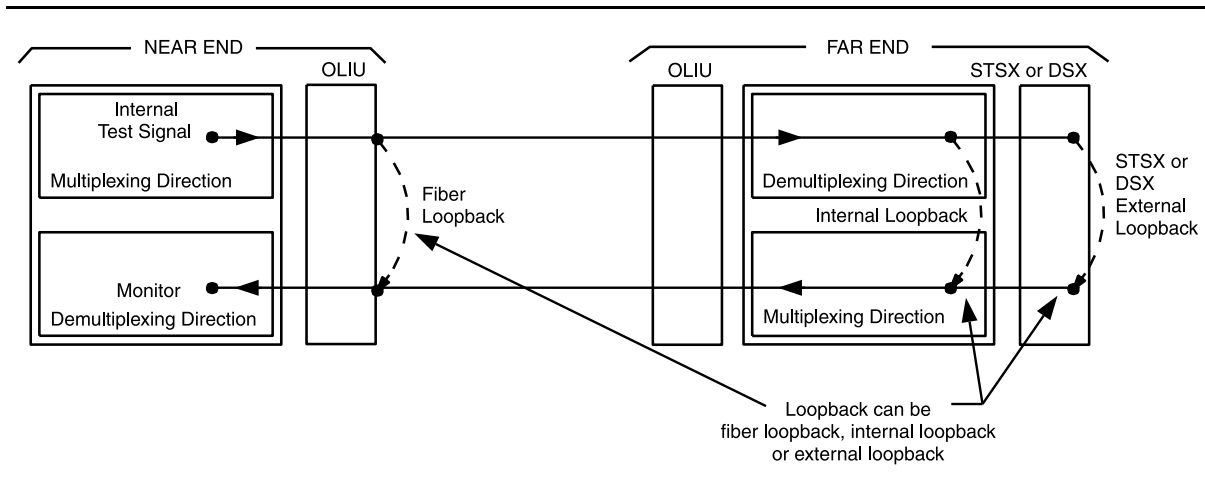

Figure 1 – Transmission Test of DS3 Signal in MUX Direction
6. See Figure 1. If local tests are being performed, the fiber loopback at the near-end **OLI** must be in place. If end-to-end tests are being performed, do ONE of the following:
22. See Figure 1. If local tests are being performed, the fiber loopback at the near-end **OLI** must be in place. If end-to-end tests are being performed, at the far-end DSX-3 or STSX cross-connect point associated with the DDM-2000 being tested, connect a patch cord from the **OUT** jack to the **IN** jack for the DS3 channel to be tested.